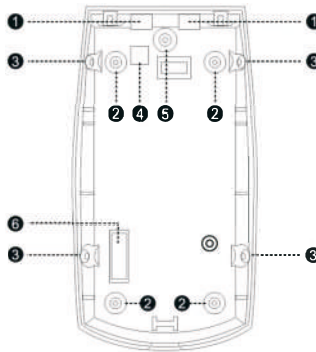

Fig.1 Knockout holes
3. Break out the desired holes for proper installation (Fig. 1 - 2) for flat mount or Fig. 1-3 for corner mount) Use 4 screws type 3x30mm.
4. The circular and rectangular indentations at the bottom base (Fig. 1- 1, Fig. 1-4) are the knockout holes for wire entry.